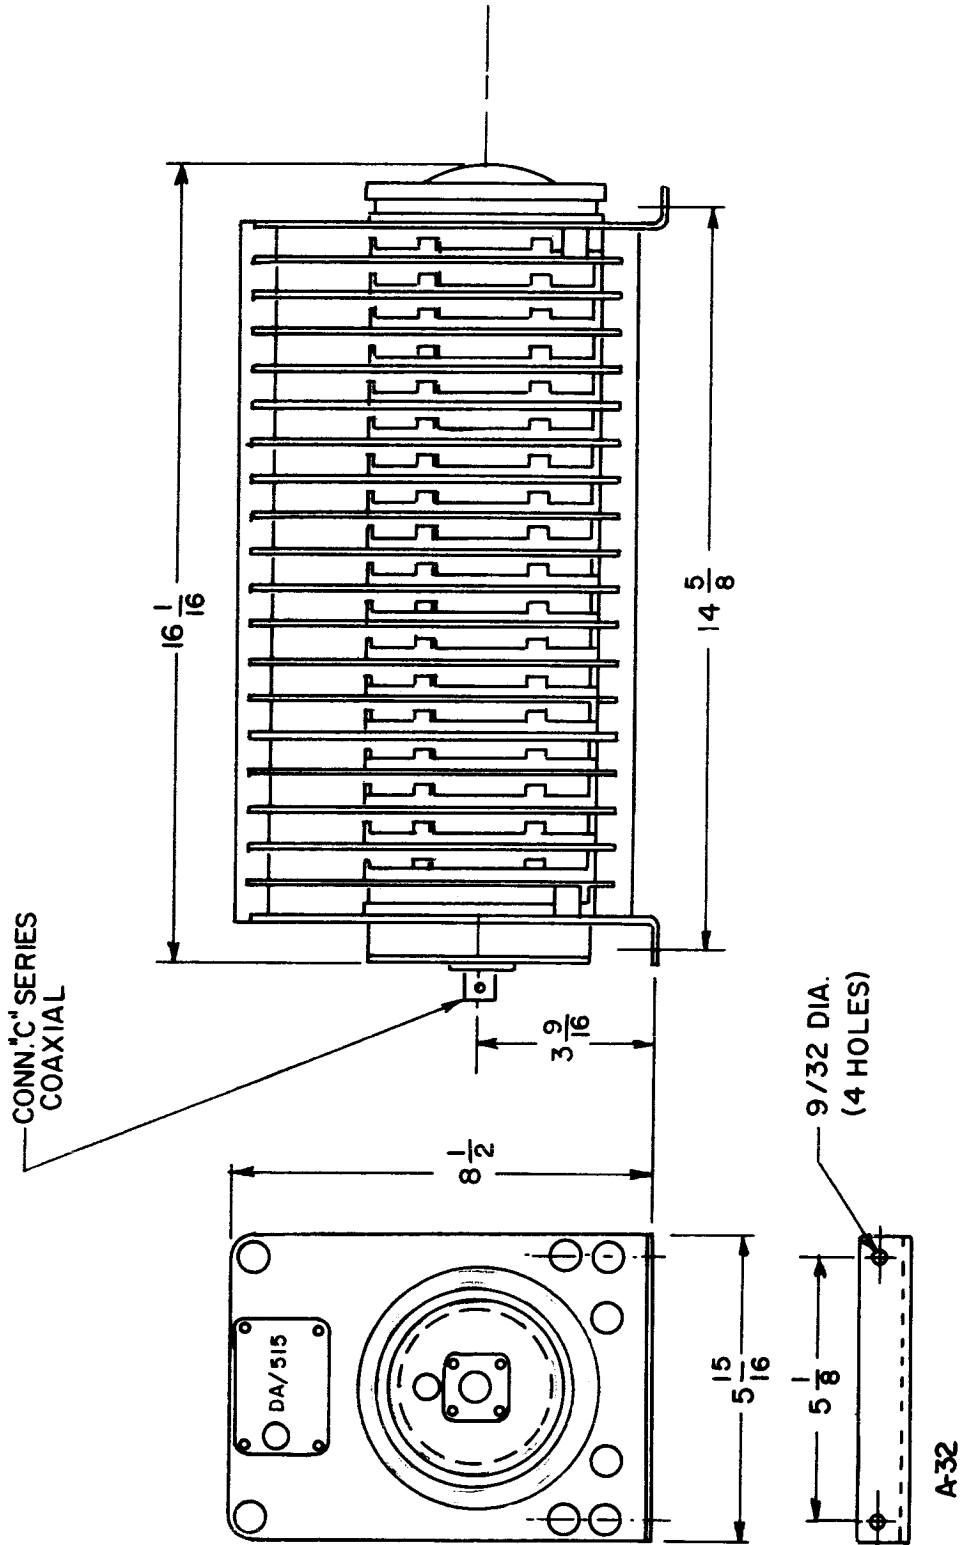
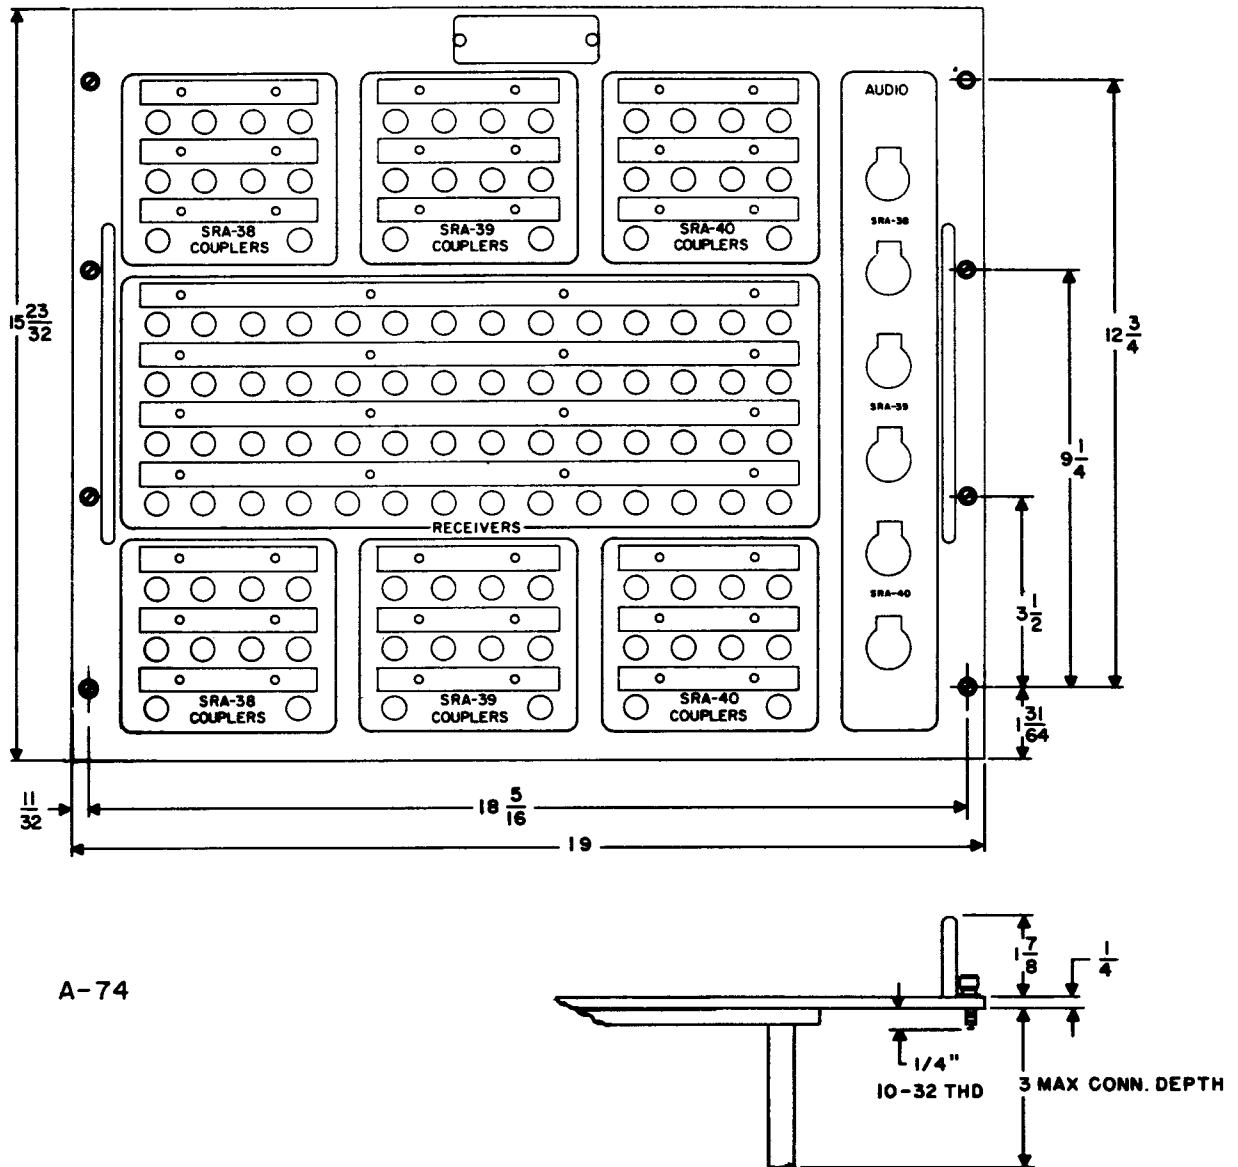

FIGURE 2-5. DIMENSIONAL DATA, DUMMY LOAD, ELECTRICAL, DA-515/U
FIGURE 2-6. SIGNAL DISTRIBUTION PANEL SB-3333/SR, DIMENSIONAL OUTLINE.
(1) Distance between the input jack of the dummy load and antenna output jack 1J2 of the associated coupler group should not exceed 60 inches.
(2) Mounting area must be sufficient to provide at least six inches of free space above and on all sides of the unit to permit heat dissipation by convection.
(3) Mounting surface must be horizontal to the deck, so that ventilating fins are essentially vertical. Figure 2-5 provides dimensional data relating to installation of the dummy load.
(4) Where vertical space permits proper air circulation, the dummy load may be mounted on top of the associated antenna coupler group.
d. SIGNAL DISTRIBUTION PANEL, SB-3333/SR AND SB-3332/SR. - The SB-3333/SR is shown in Figure 2-6 for both outline dimensions and front panel patching connections. The panel is
Antenna Coupler Groups AN/SRA-38, -39, and -40 contain no internal patching facilities. On these coupler groups the operator will make coupler-to-receiver wiring changes at the remote transfer panel (Figure 2-6).